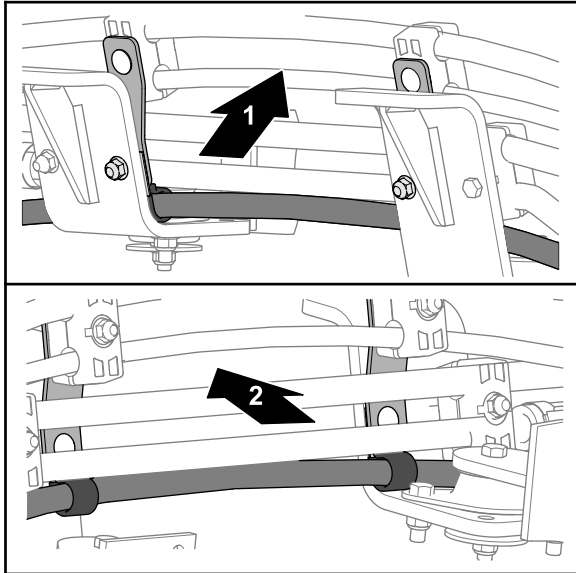

Figure 83
4. Secure the clamp mount plates and P-clamps to the engine mount brackets (Figure 82 and Figure 83) with the 2 carriage bolt (5/16 x 1 inch) and 2 flange locknut (5/16 inch).